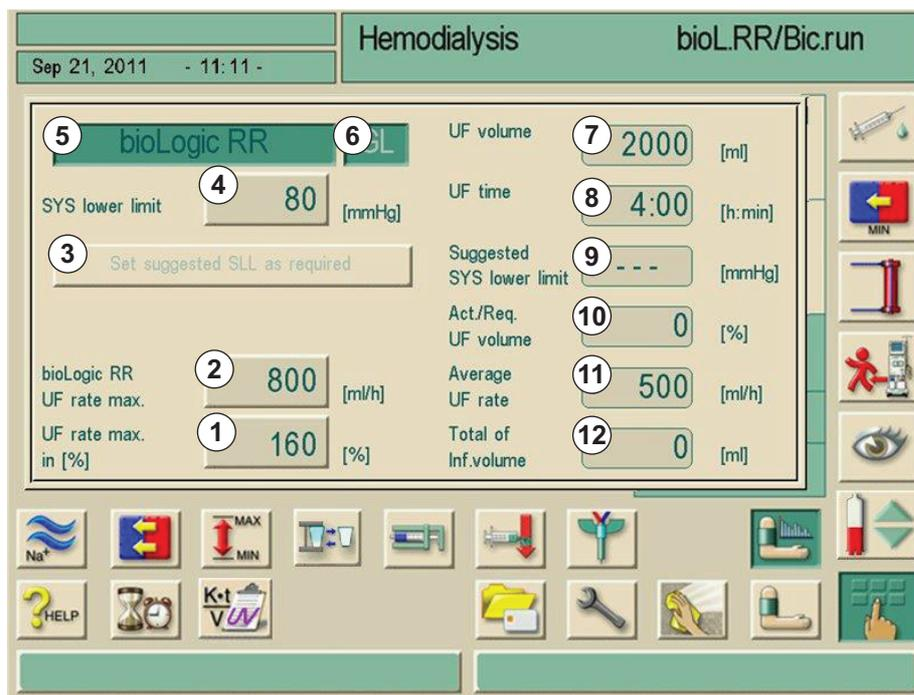

Fig. 11-11 “bioLogic RR Parameter” screen
Additional manual blood pressure measurements can be performed, e.g. during the longer time intervals, and are taken into account by the algorithm. If the measured systolic blood pressure falls to a value of $1.25 \cdot \text{SLL}$ (systolic lower limit, see Fig. 11-11 “bioLogic RR Parameter” screen (187), 4), blood pressure measurement interval is increased to 5 minutes. If the measured systolic blood pressure falls below SLL, UF rate is reduced immediately until blood pressure increases above this lower limit. The option bioLogic RR Comfort is only available in combination with the option ABPM.
1. Touch the "Set suggested SLL as required" field. The value shown on button 4, Fig. 11-11 "bioLogic RR Parameter" screen (187), is accepted.
2. Touch button 6, Fig. 11-11 "bioLogic RR Parameter" screen (187).